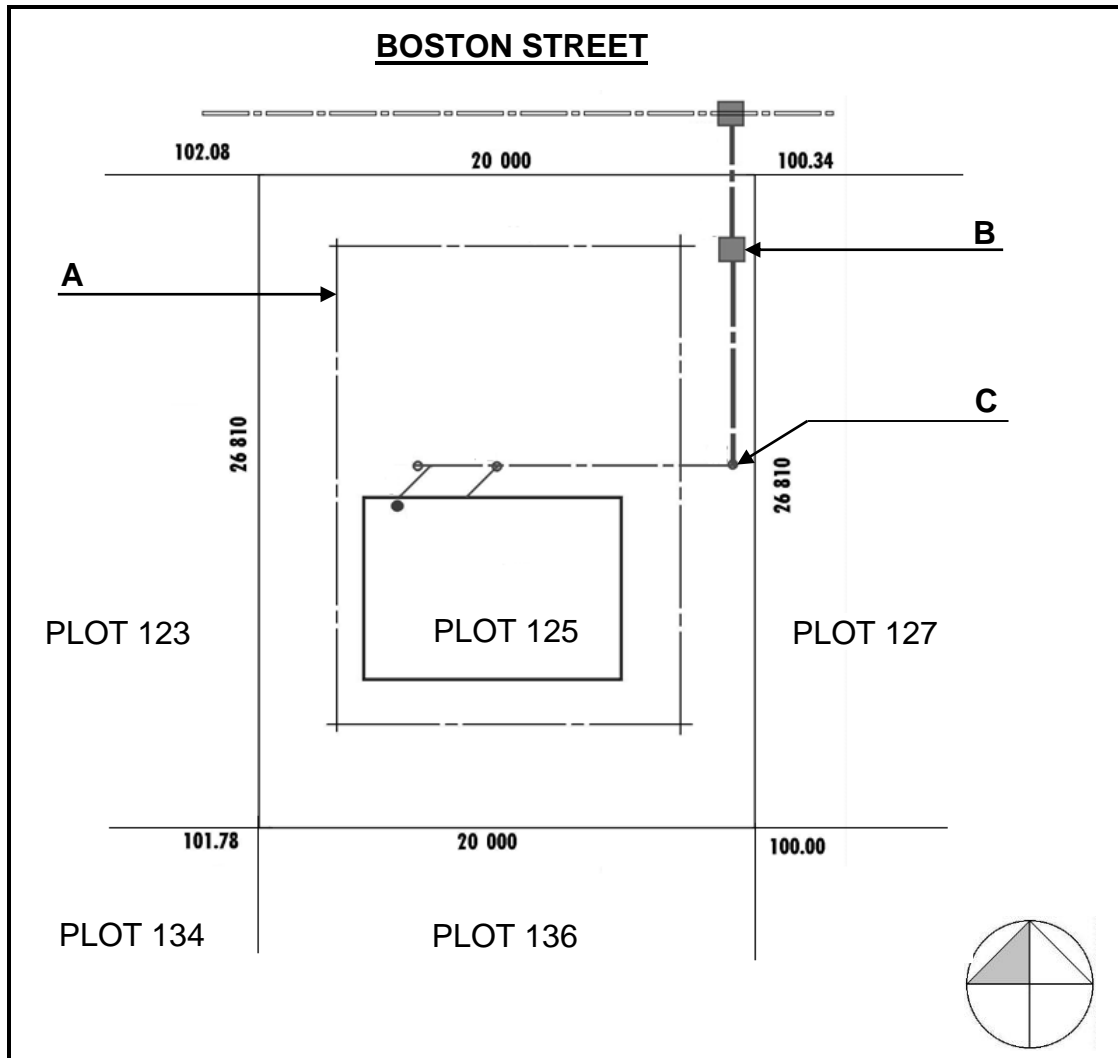

FIGURE 3.1
3.1 Answer the following questions with regard to the plan elevation in FIGURE 3.1.